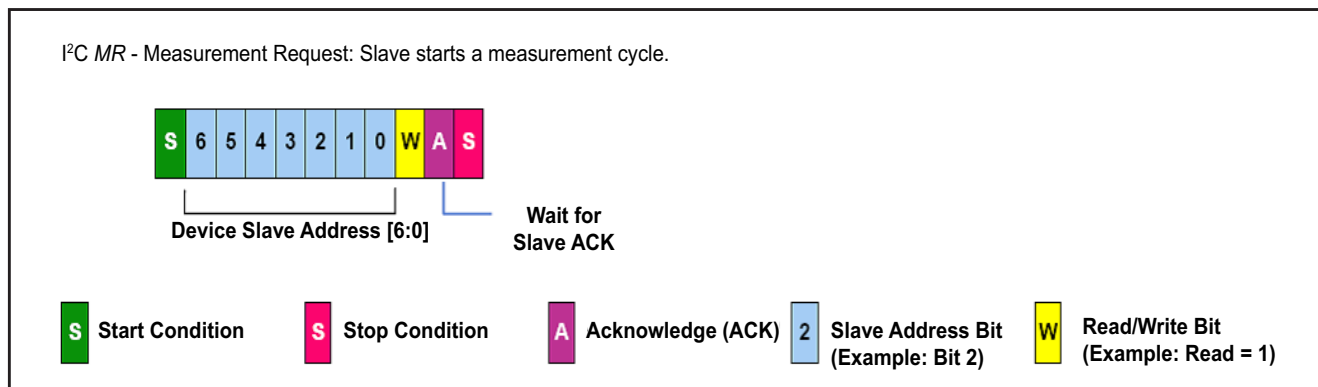

Figure 17: I2C Measurement Request
As shown in Figure 17 below, the communication contains only the slave address and the WRITE bit (0) sent by the master.